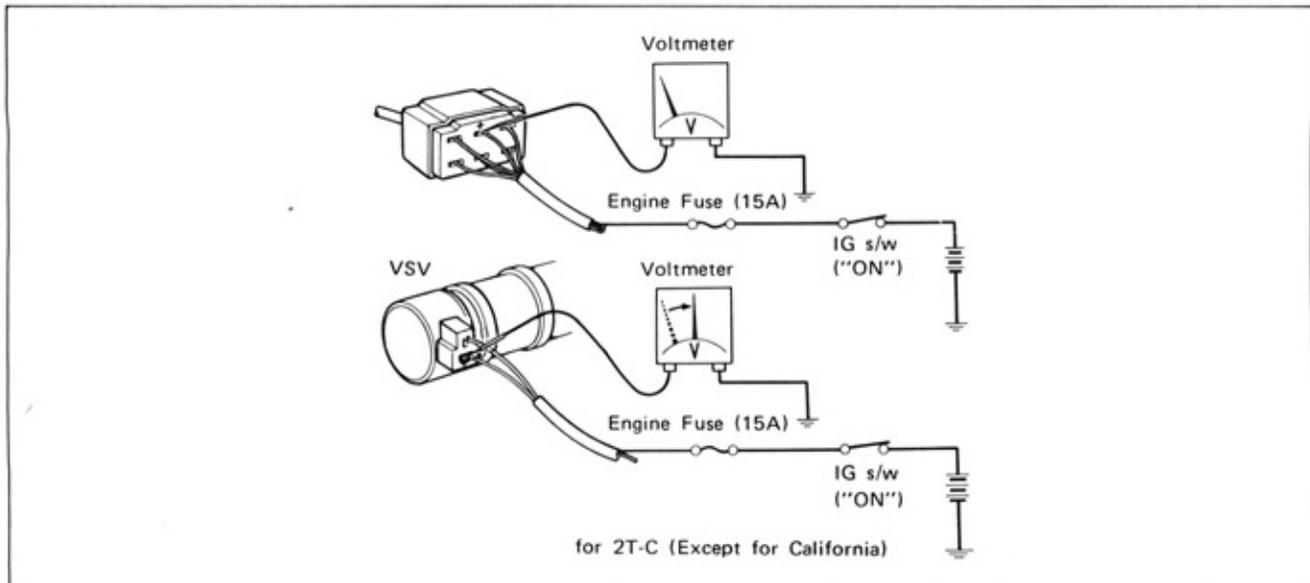

Fig. 1-23 VSV Power Source Check
- 2) Under the condition of the VSV wiring connector plugged in, measure the voltage between the (+) terminal of VSV connector and ground with a voltmeter, as shown in Fig. 1-23.